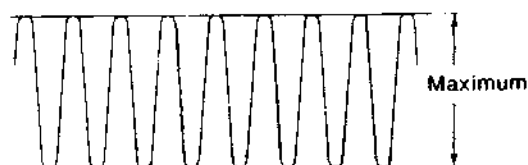

Fig. 2-24
- Adjust screw D so that the output level becomes maximum, see Fig. 2-24